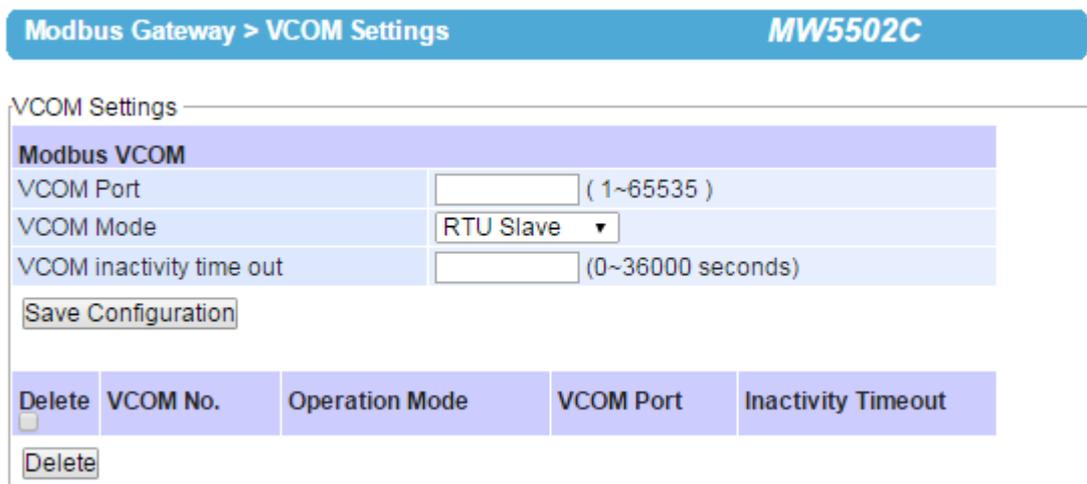

Figure 4.42 VCOM Settings Web Page
Figure 4.42 shows the page of VCOM Settings in which the VCOM number 1 is set as an RTU Slave. This means that a device that is connected to this VCOM port on the Modbus Gateway will be a Modbus Slave node and communicate with a Modbus Master node using Modbus/RTU protocol. It is an interface concept that allows Modbus Slave devices to be connected via TCP connection by using VCOM from a PC (for example). If a VCOM setting is needed, proceed to select **Modbus Gateway** → **VCOM Settings**.
- **VCOM Mode:** This setting is a pull-down menu in which the user can select the **Operation Mode** of the devices connected through this VCOM port as shown in Figure 4.42. Its definition is the same to the one given in Section 4.5.2. Here the user can choose whether device conforms to a RTU or an ASCII message format and can select whether the device is either Modbus Slave node or Modbus Master Node. Figure 4.42 depicts the **RTU Slave** mode. So, the devices connected through VCOM 1 port will assume Modbus Slave role and communicate using Modbus/RTU protocol. If a Master mode (either RTU or ASCII) is selected, the options for the Master mode will